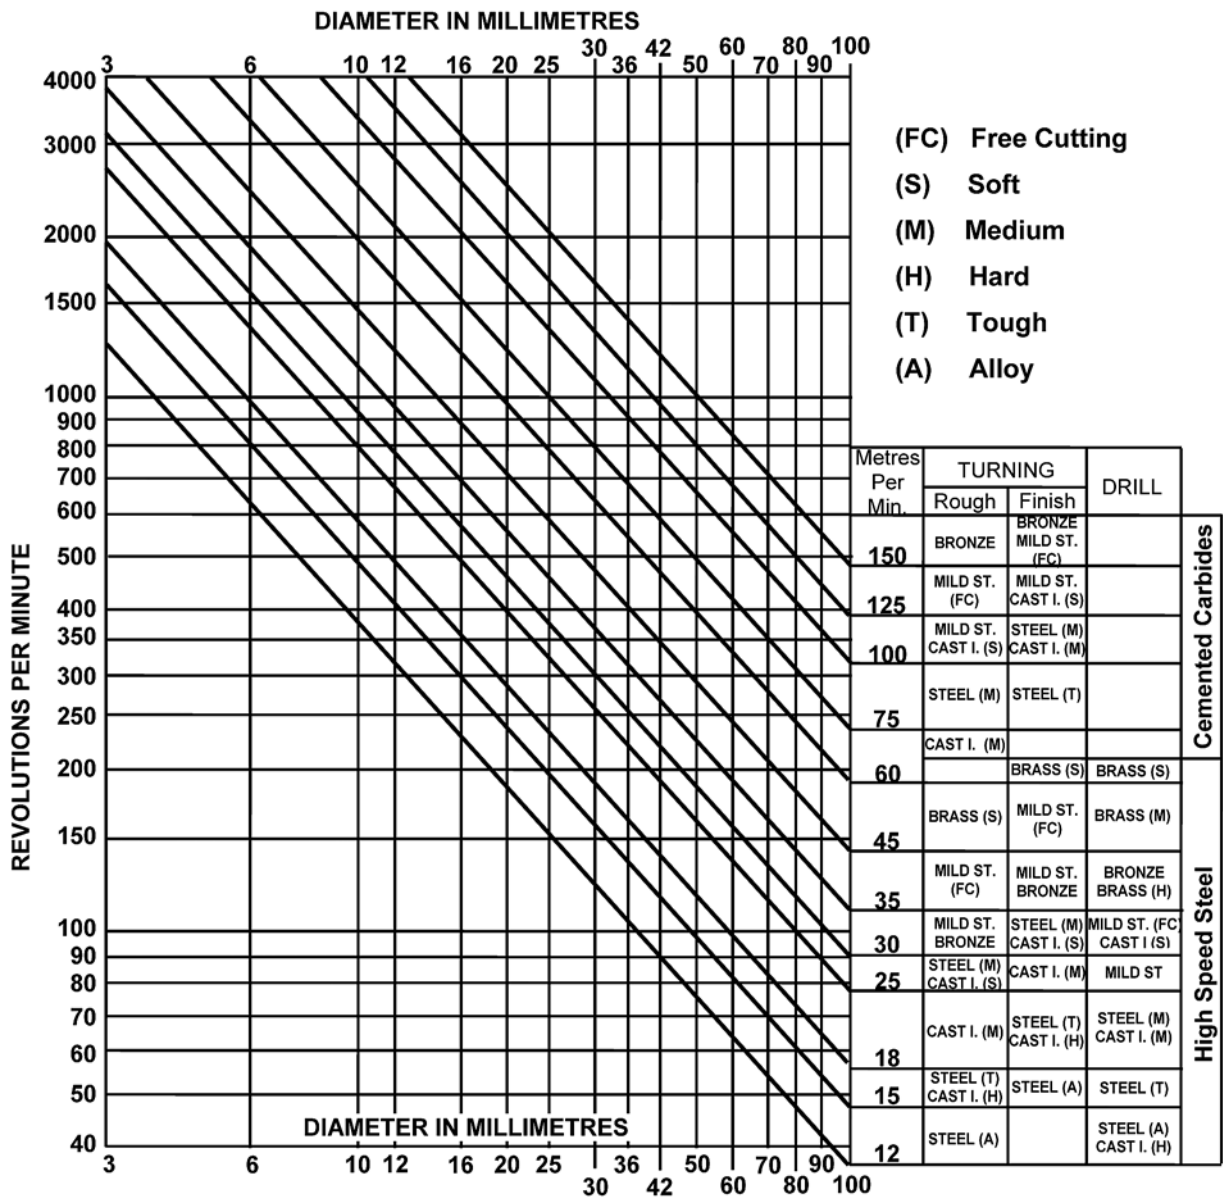

Figure 5
- h.** Use the nomogram shown in Figure 5 to calculate the approximate rpm for a Ø 16 hole drilled in the angle plate.